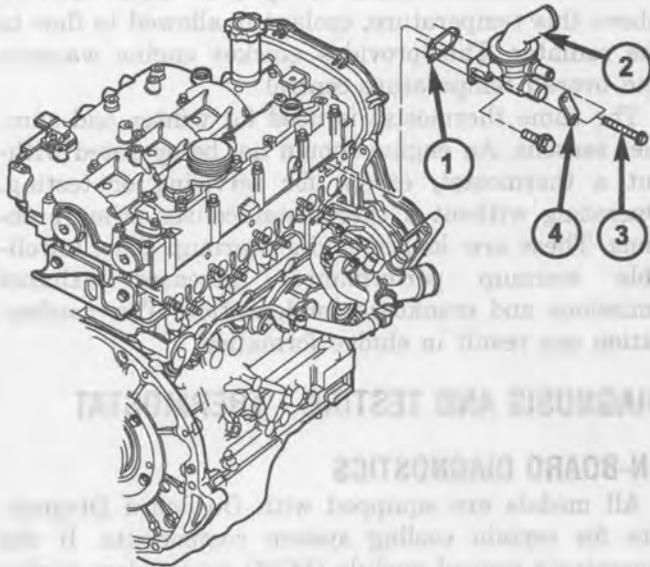

Fig. 9 THERMOSTAT HOUSING
- (1) Disconnect negative battery cable.
- (2) Drain the cooling system. (Refer to 7 - COOLING/ENGINE/COOLANT - STANDARD PROCEDURE)
- (3) Disconnect coolant temperature sensor electrical connector at thermostat housing (Fig. 9).
- (4) Remove coolant temperature sensor from thermostat housing.
- (1) Install coolant temperature sensor in thermostat housing (Fig. 9).
- (2) Connect coolant temperature sensor electrical connector.
- (3) Refill cooling system. (Refer to 7 - COOLING/ENGINE/COOLANT - STANDARD PROCEDURE)
- (4) Connect negative battery cable.